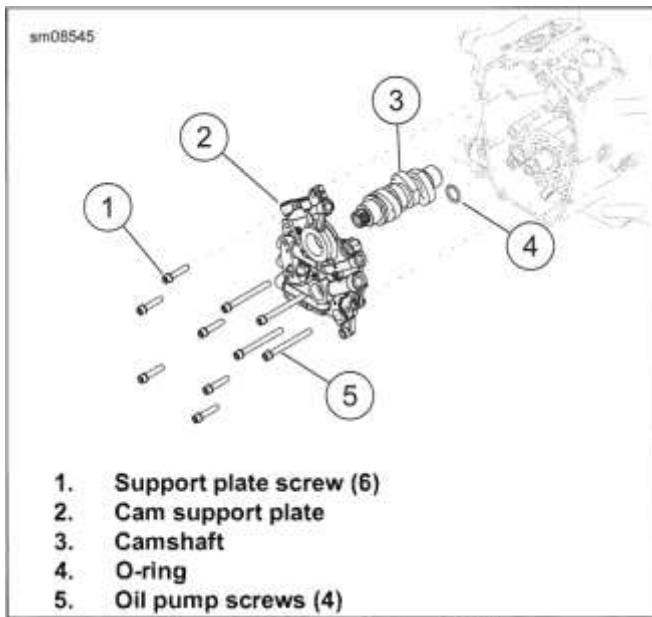

Figure 4-53. Cam Support Plate
- b. See Figure 4-53. Remove four screws (5).
- c. Remove screws (1).
- d. Remove cam support plate (2).
- e. Remove camshaft (3).
- f. Remove O-ring (4).
2. See Figure 4-53. Install cam and cam support plate.
- b. Install new O-ring (4) into crankcase feed oil port.